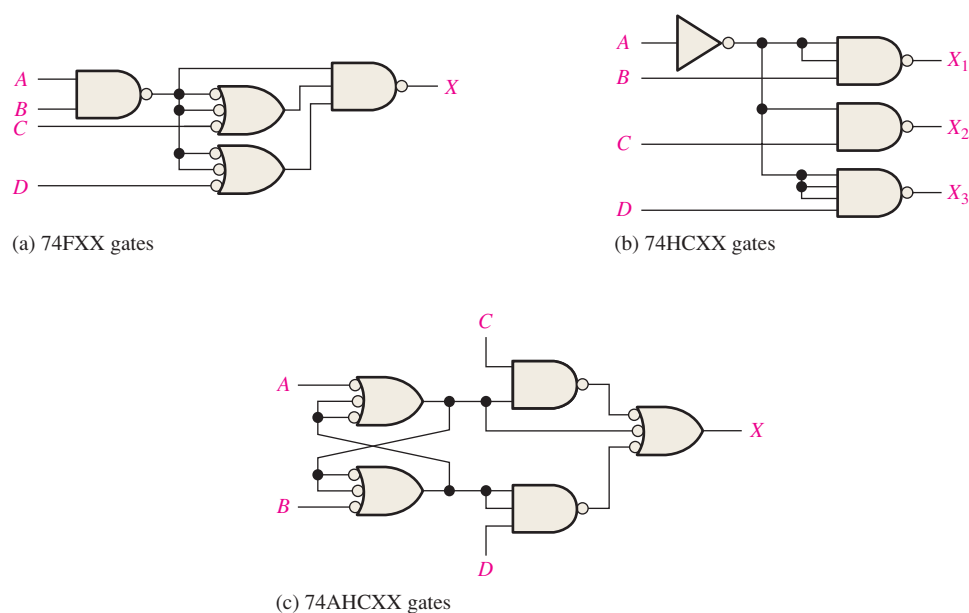

FIGURE 15-61
27. Determine the total propagation delay from each input to each output for each circuit in Figure 15-61.